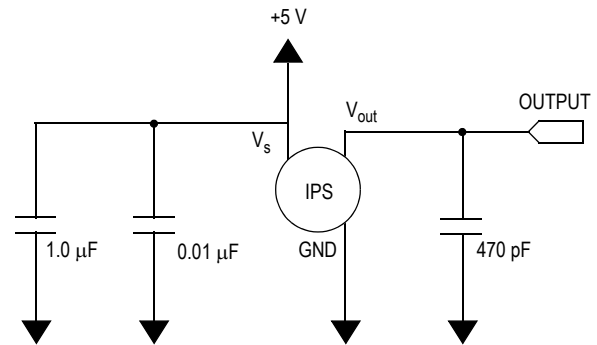
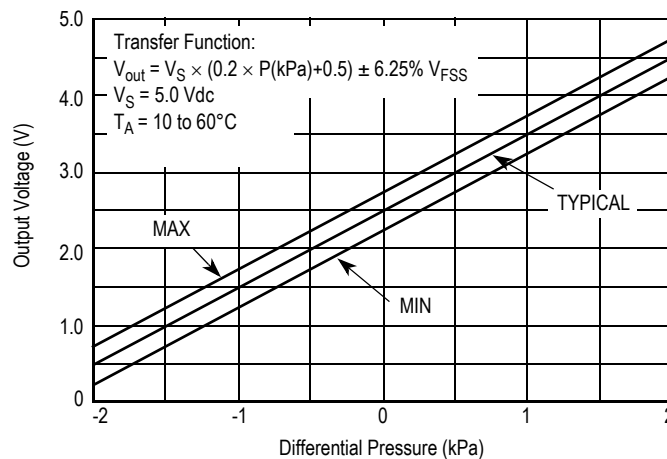

Figure 3. Recommended Power Supply Decoupling and Output Filtering (For additional output filtering, please refer to Application Note AN1646.)
Figure 4. Output versus Pressure Differential
**Table 2. Operating Characteristics** ( $V_S = 5.0$  Vdc,  $T_A = 25^\circ\text{C}$  unless otherwise noted. Decoupling circuit shown in Figure 3 required to meet specification.)
Figure 3 shows the recommended decoupling circuit for interfacing the integrated sensor to the A/D input of a microprocessor or microcontroller. Proper decoupling of the power supply is recommended.
Figure 4 shows the sensor output signal relative to pressure input. Typical, minimum, and maximum output curves are shown for operation over a temperature range of 10° to 60°C using the decoupling circuit shown in Figure 3. The output will saturate outside of the specified pressure range.